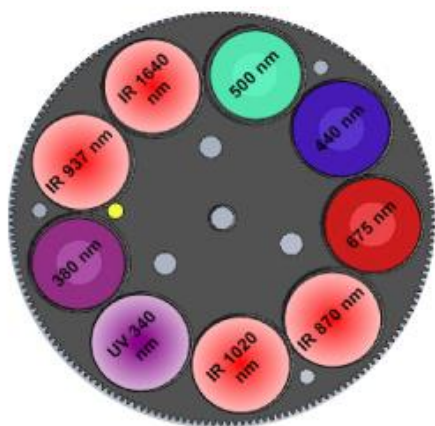

Figure 1 :Standard type
- **Standard:** It uses 340, 380, 440, 500, 675, 870, 937, 1020 and 1640 nm filters (Fig.1).